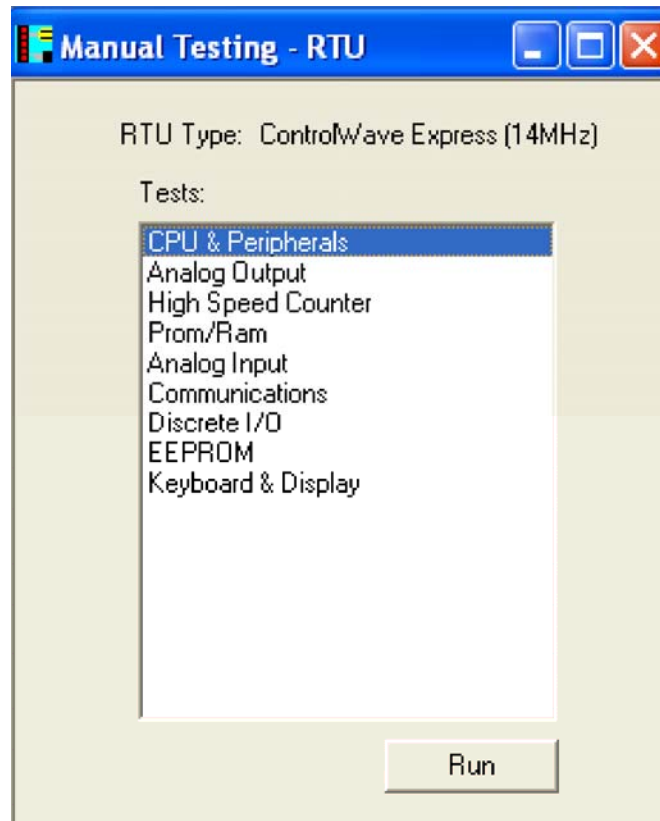

Figure 5-6. WINDIAG Main Diagnostics Menu
2. Select **Start >Programs > OpenBSI Tools >Common Tools >Diagnostics**. The Main Diagnostics menu (*Figure 5-6*) opens.
WINDIAG's Main Diagnostics Menu (see *Figure 5-6*) provides the following diagnostic selections: